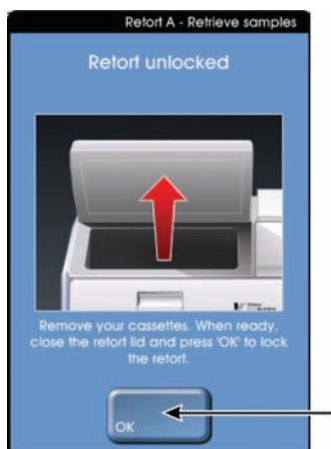

Figure 78: Retrieve samples dialog box with OK button
4. When the "Retrieve samples" dialog box appears, open the retort lid and add or remove cassettes as required (see Figure 78).
5. When you have finished adding or removing cassettes, close the retort lid and select the **OK** button (see Figure 78).